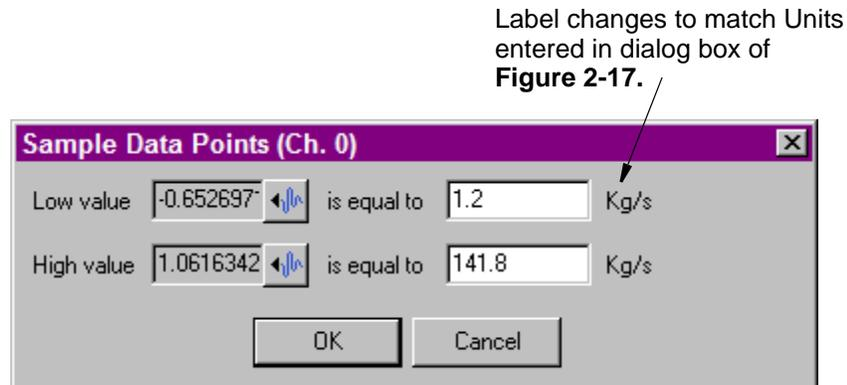

Figure 2-20 Sampled Data Point Dialog Box
- STEP 3:** Click on “Compute From Sampled Data Points”. The dialog box shown in **Figure 2-20** appears.